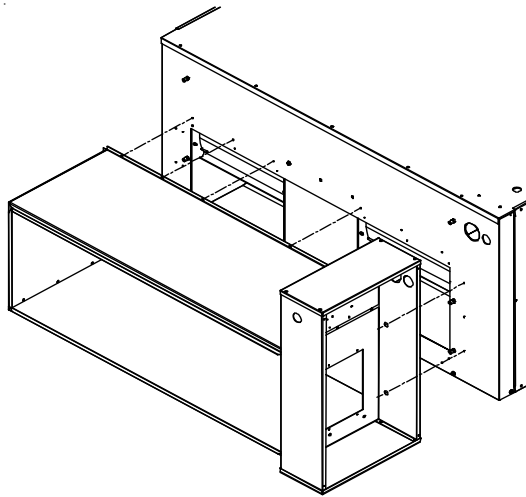

Figure 2
- The heat kit attaches directly to the top panel (when viewed in the upflow position) of the air handler. Do not screw the heat kit into the duct flanges. Position the heat kit onto the air handler at the air discharge end with the control box orientated toward the airhandler front. See Figure 2.